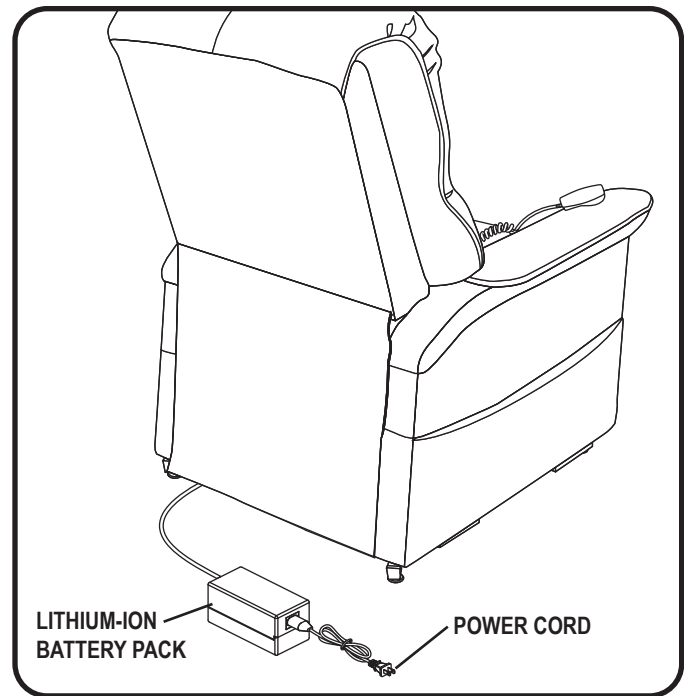

Figure 4.5 Chair Battery Back-up Location
2. Position the external transformer so that the lithium-ion battery is facing upward (fig. 4.5).